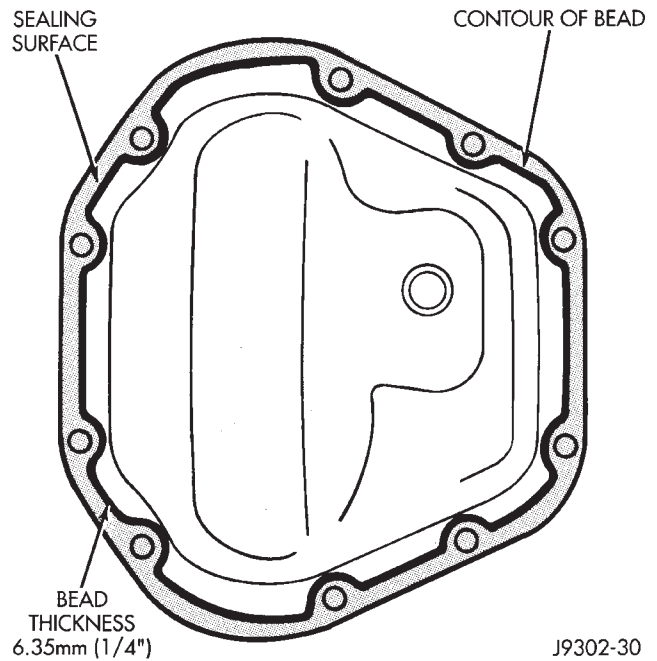

Fig. 46 Typical Housing Cover With Sealant
(1) Install the axle shafts. Refer to Axle Shaft Installation within this group.
(2) Scrape the residual sealant from the housing and cover mating surfaces. Clean the mating surfaces with mineral spirits. Apply a bead of MOPAR® Silicone Rubber Sealant on the housing cover (Fig. 46). Allow the sealant to cure for a few minutes.